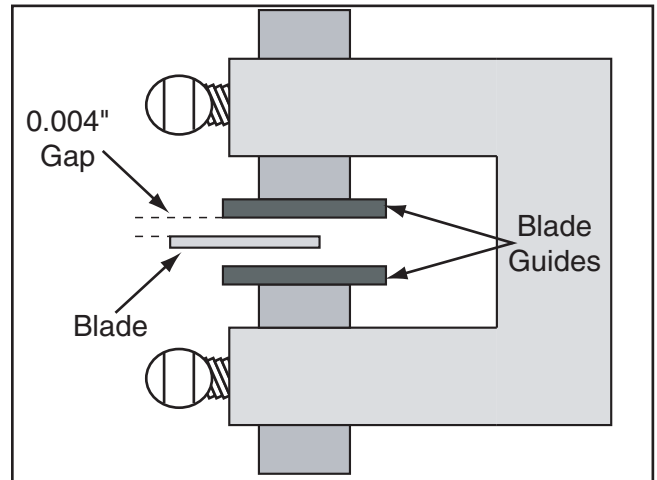

Figure 49. Correct gap between guide guides and blade.
3. By hand, adjust the distance of the guides approximately 0.004" from the sides of the blades (see **Figure 49**), then re-tighten the thumb screws to secure the setting.